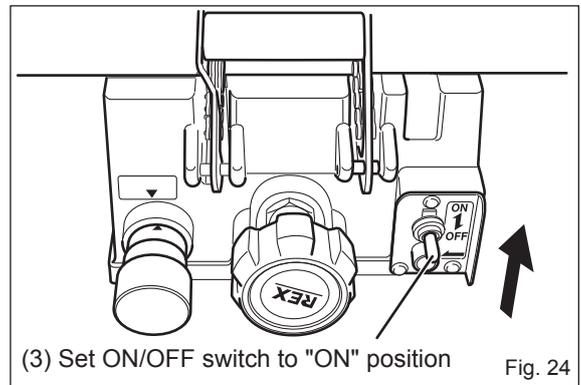

Fig. 24
(3) Set the ON/OFF switch on the front right section of the base to the "ON" position. The blade will start turning. (Fig. 24)